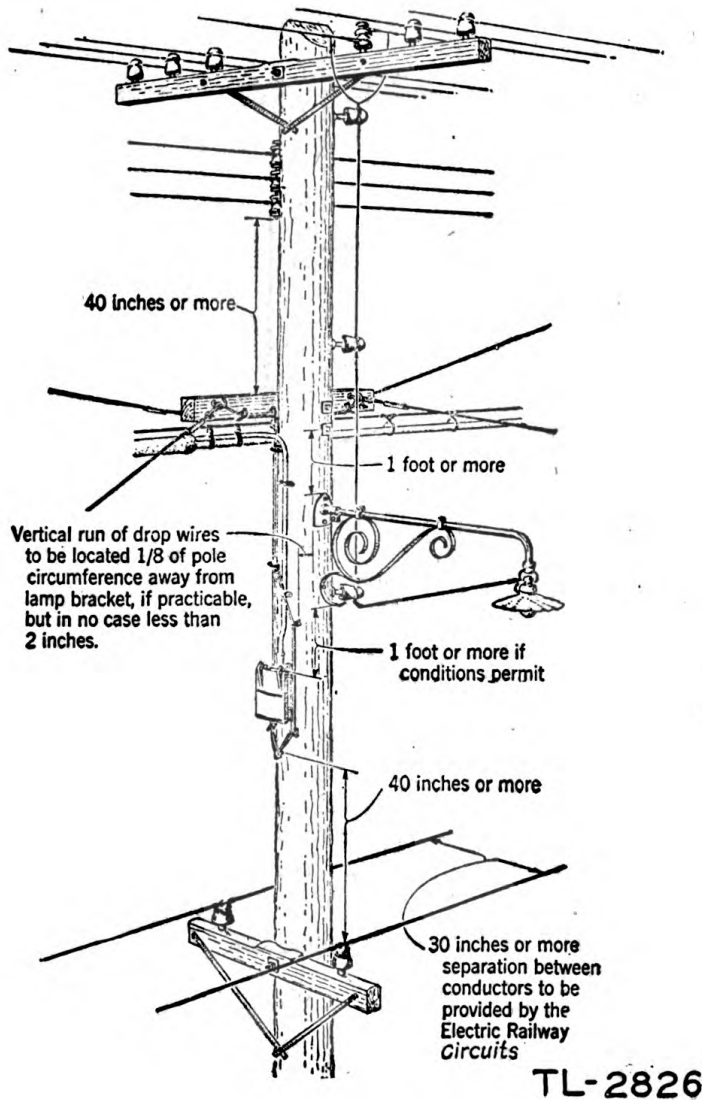

Figure 56. Clearances on jointly used poles.
b. Illustrations of various allowable clearances are shown in figures 56, 57, and 58.